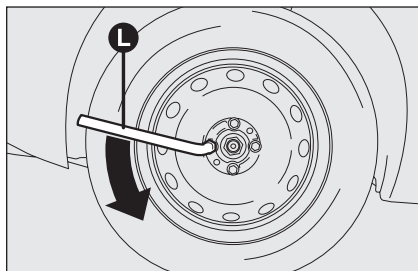

fig. 5
- using the wrench provided **L-fig. 5** loosen the fastening bolts by about one turn; if the car is fitted with alloy rims, shake the car to facilitate removing this rim from the wheel hub;